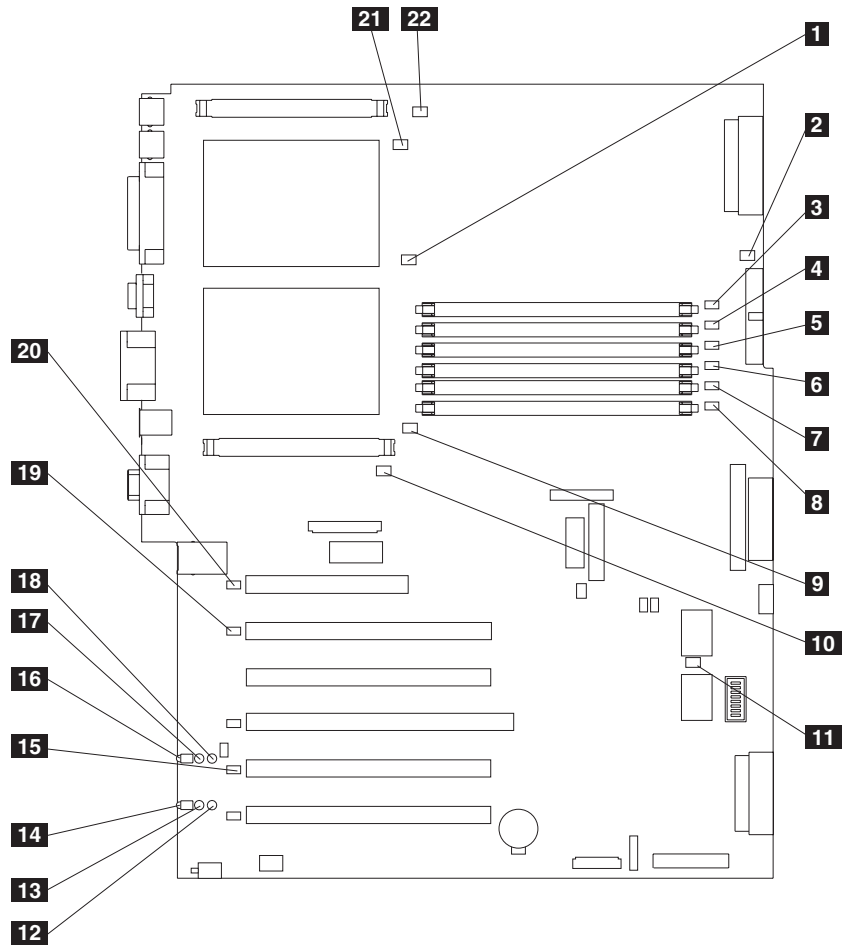

Figure 12. System-board LED locations
2. To locate the LEDs on the system board see Figure 12 on page 129.